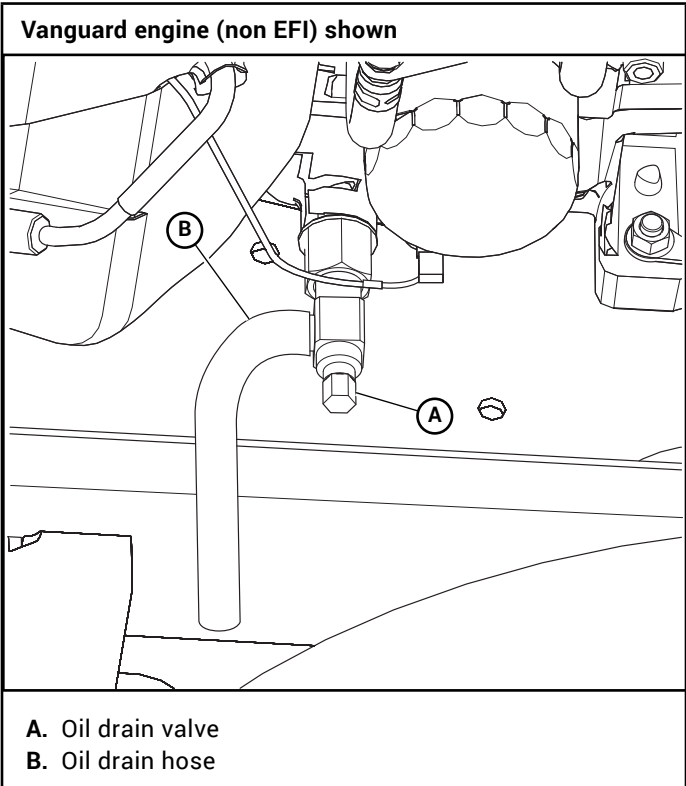
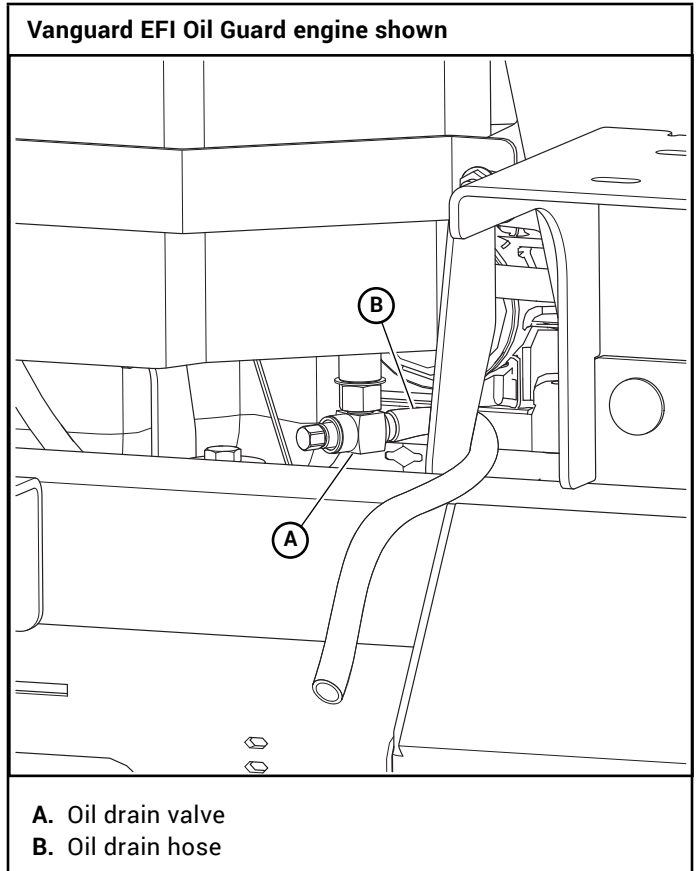

Figure 4-12
Figure 4-13
3. Attach one end of the hose onto the oil drain valve nipple. Make sure the hose is pushed all the way onto the valve. Figure 4-12 and Figure 4-13